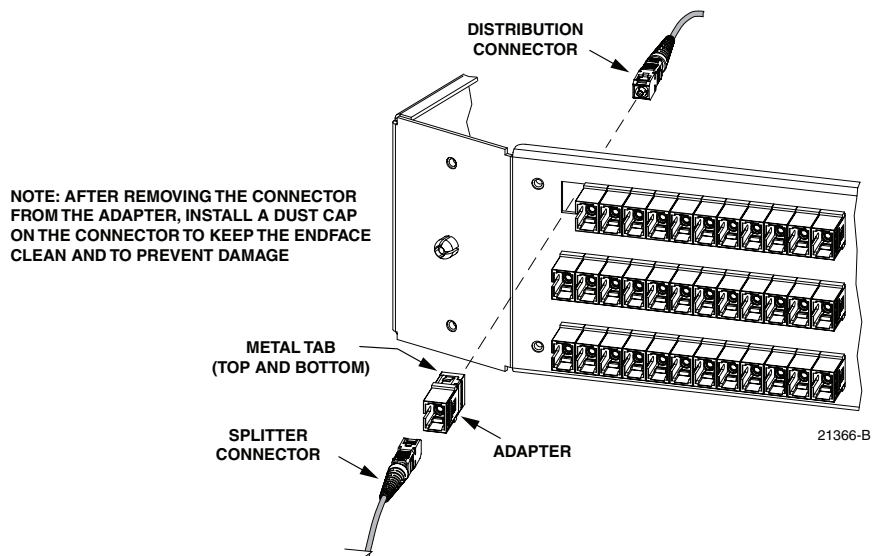

Figure 25. Adapter Removal and Replacement
1. Disconnect the splitter connector from the front side of the broken adapter as shown in Figure 25 and install a dust cap on the connector.